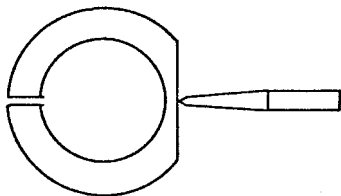

Figure 8
- 4.1.3 With a chisel, “cut out” one spacer from each stud, as shown in **Figure 8**.